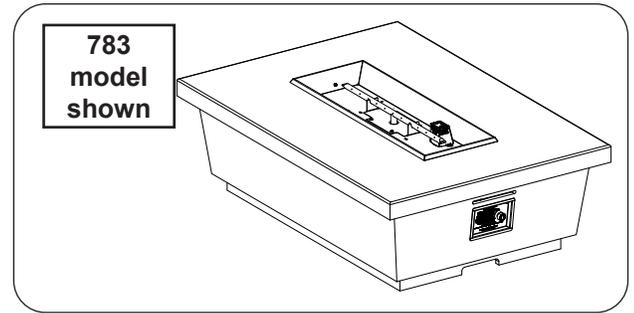

Fig. 29-1 Place unit
1. **Carefully** place the base in an appropriate location (see Fig. 29-1, and refer back to the LOCATION section if needed).
2. Apply silicone at the 4 posts, then replace the top/main unit (see Fig 29-1, B-C).